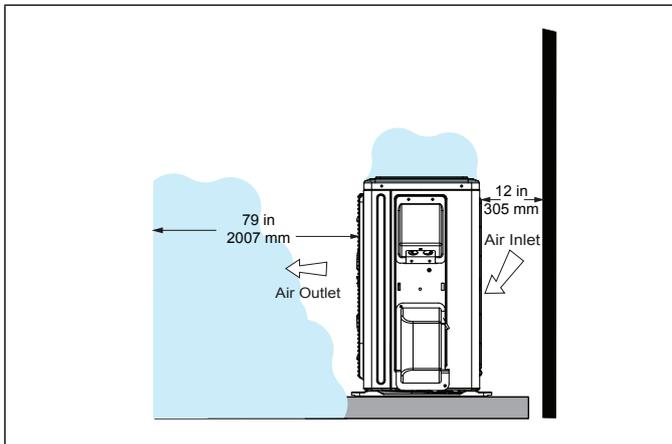

Figure 22. Outdoor Unit Air Flow Obstructed by Snow
- In heavy snow areas, do not place the unit where drifting will occur as illustrated in “Figure 22. Outdoor Unit Air Flow Obstructed by Snow”.